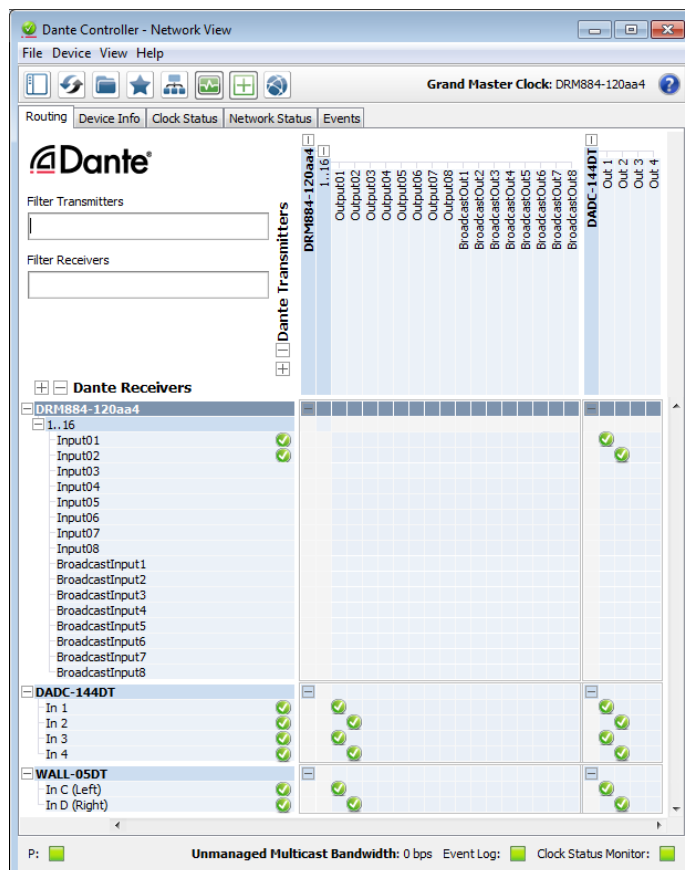

Fig. 11 Dante routing
- 1) Under “Routing” in the window “Network View”, click  to open the transmitting channels of the desired device under “Dante Transmitters” and the receiving channels of the connection partner desired under “Dante Receivers” (refer to fig. 11).